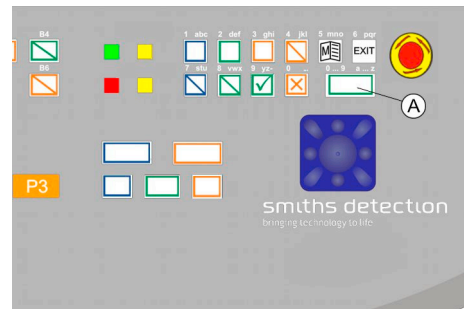

Fig. 10: Detail of eqo's local keyboard
Only when inside an input field the lower-case numbers and letters [1 abc] ... [0 _.] written above each function key are active. This gives the operator the ability to enter letters and numbers. The numbers are used by default. To switch between the entry of letters and numbers press / (see Fig. 10, ①), Only the keys explained below are available operator's use.